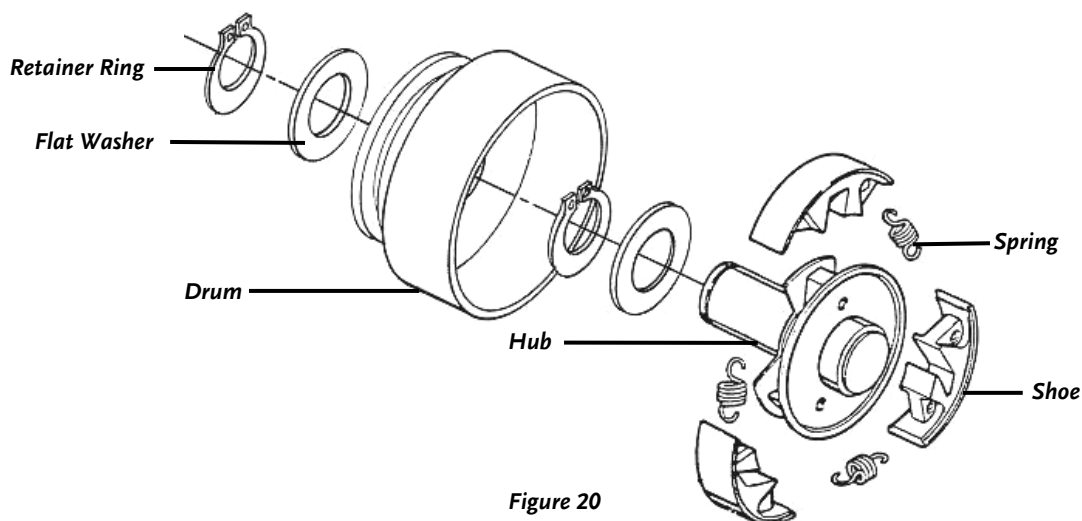

Figure 20
2. Remove the Retainer Ring and Flat Washer and slide the Hub out of the Drum Assembly (**Figure 20**).
3. Unhook one Spring from its Shoe (**Figure 20**).
4. Carefully note the position of Shoes and remove Shoes from the Hub (**Figure 20**).
7. Reassemble the Drum to the Hub, reinstall the Washer on Hub Shaft and secure in place with the Retainer Ring (**Figure 20**).